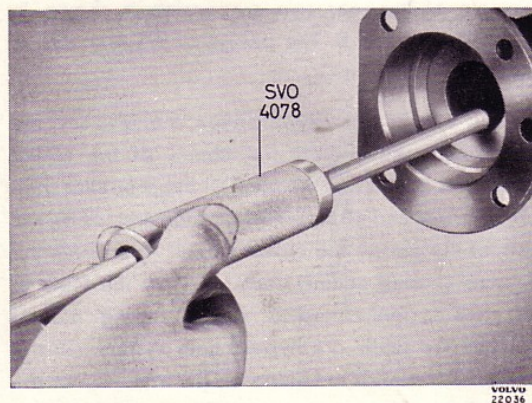

Fig. 3. Removing oil seal.
3. Pull out the oil seal by using tool SVO 4078, Fig. 3.
4. Remove the oil seals (14) with the help of puller SVO 4078, see Fig. 3.